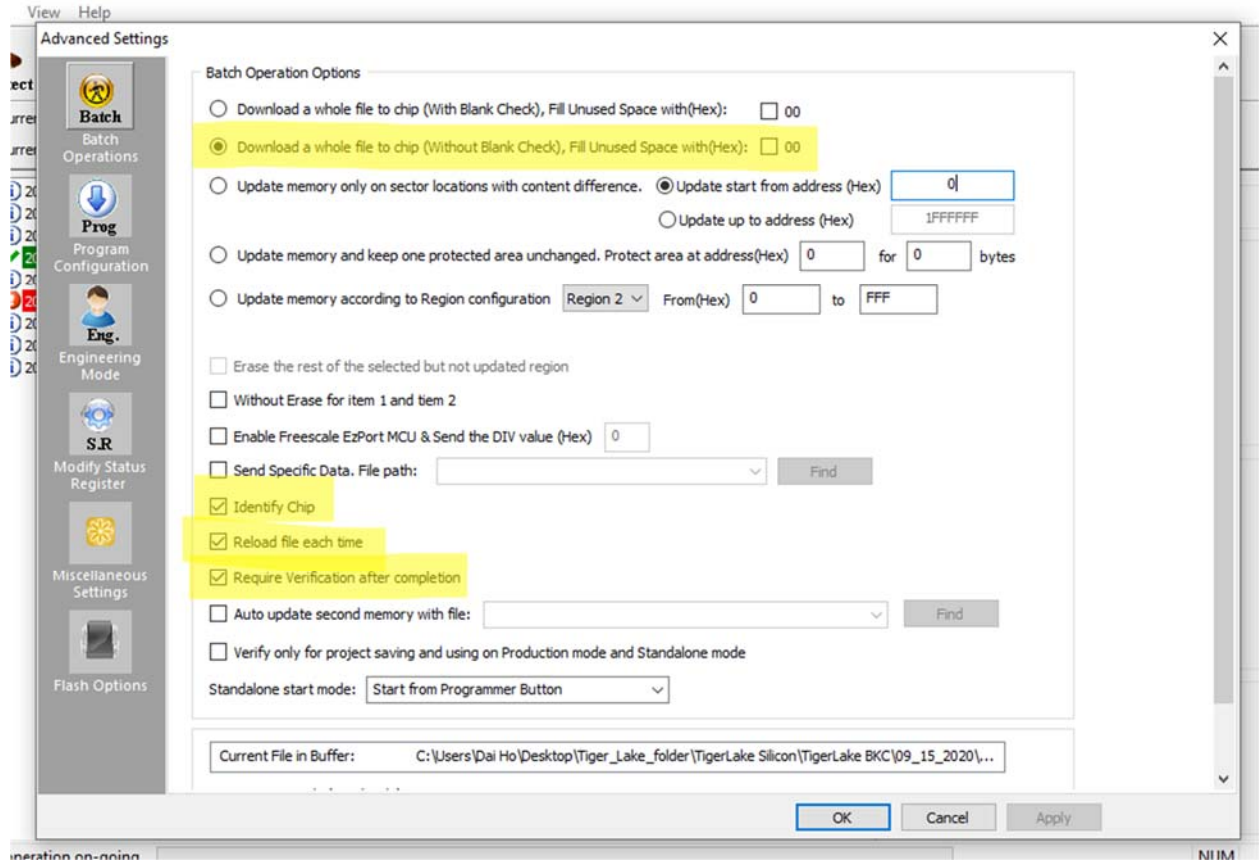

Figure 7: Batch Operation Options
- o Go to Config Menu at the Top→Select Batch Operations(Top Left)→Check the Batch Operation Options is the same as Yellow Highlight (see Figure 7) - →everything else leave as default